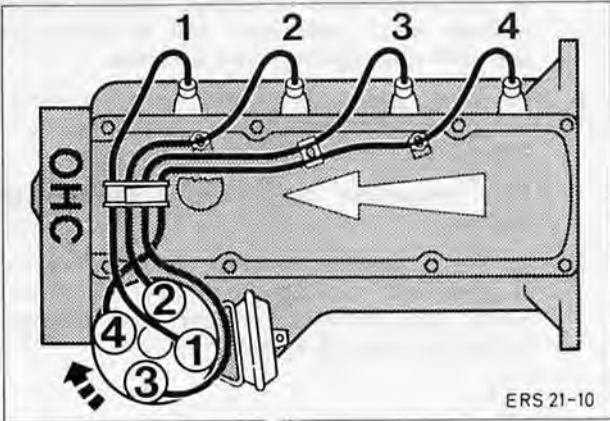

Fig. 172. Arrangement of HT leads (firing order)
5. Connect HT leads, Fig. 172, and fit air cleaner.